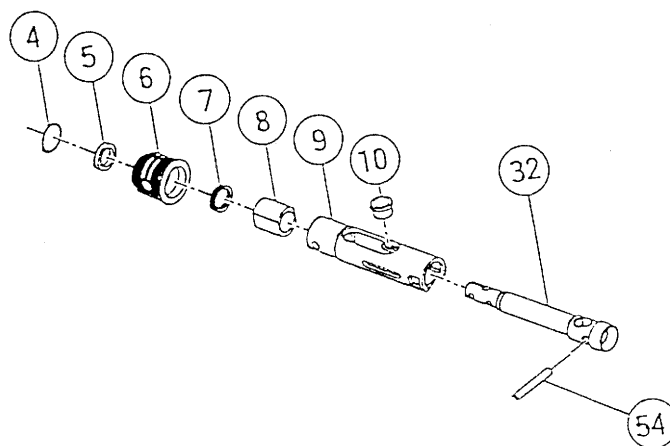

Fig. 6
(4) Disassembly of the Guide Sleeve Ass'y [9] section (Fig. 6)